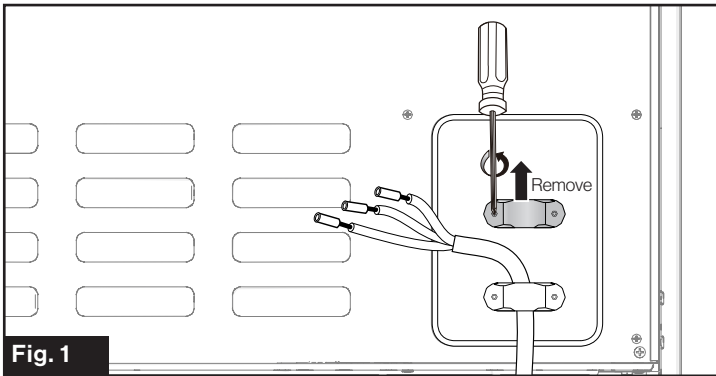

Fig. 1
1. Remove the strain relief and connector cover. (Fig. 1)